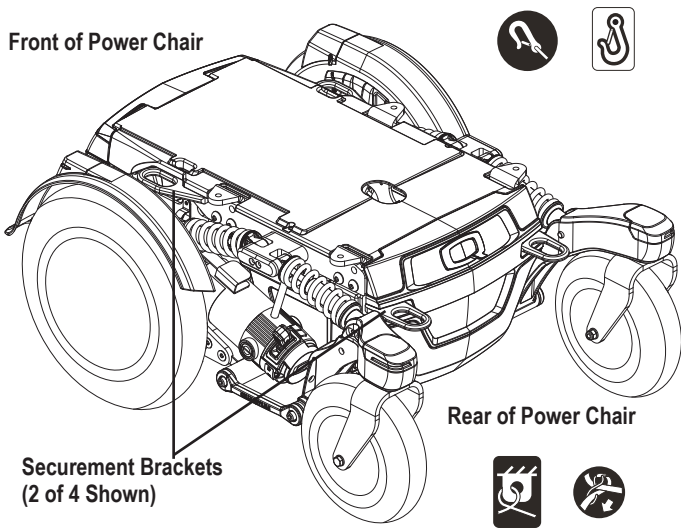

Figure 5. Transit System Securement Brackets
If your power chair is equipped with a transit securement system, it is equipped with manufacturer installed front and rear securement brackets and may be equipped with positioning belt anchoring brackets. **See figure 5.** Refer to the supplement provided with your power chair for information on how to use the transit securement system.
- Attach the four tie-down straps to only designated, labeled transit securement points indicated by anchor symbols on the power chair. **See figures 5 and 6.** Tighten the straps to sufficiently remove all slack.